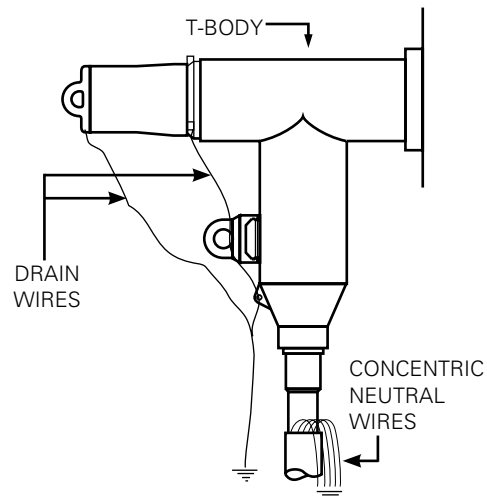

Figure 18. Line illustration of grounding
- Connect concentric neutral wires to the common ground point leaving adequate slack for hotstick operation. (Refer to Figure 18.)